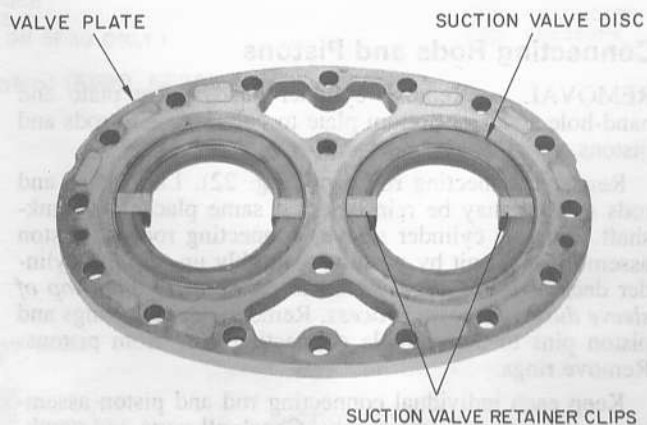

Fig. 33 — Valve Clips in Place
2. Place suction valve disc on valve springs; press disc into valve plate recess. Slide valve retainer clips into place (Fig. 33). Clips must not cover valve lifter springs or pins. Valve retainer clips 5F20-2061 (5F compressors) and 5H40-2061 (5H compressors) are field supplied.